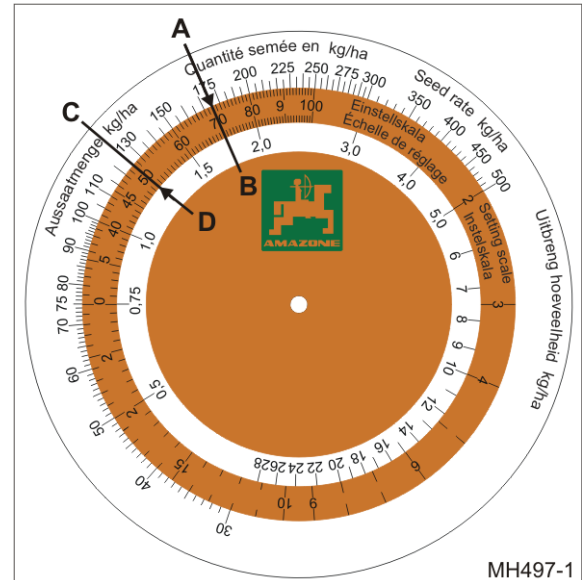

Fig. 151
- o Calculated application rate 175 kg/ha (Fig. 151/A)
- o Gearbox setting 70 (Fig. 151/B) opposite one another on the calculating disc rule.
2. Read the gearbox setting for the desired spread rate of 125 kg/ha (Fig. 151/C) from the calculator disc.
- Gearbox setting 50 (Fig. 151/D).